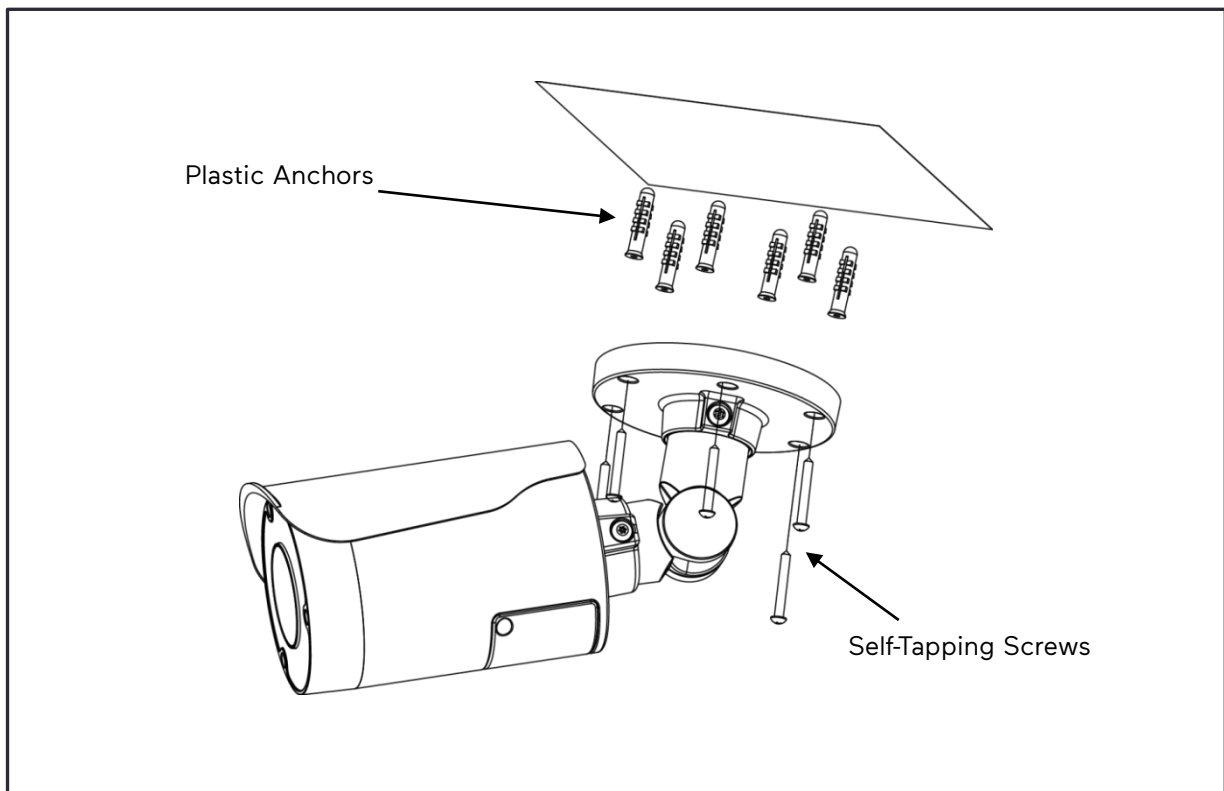

FIGURE 2-4: MOUNTING THE CAMERA
5. As shown in Figure 2-4, align the camera with the 6 holes previously drilled.